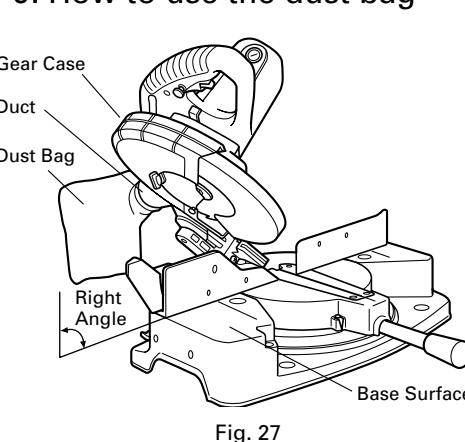

Fig. 27
(1) When the dust bag has become full of sawdust, dust will be blown out of the dust bag when the saw blade rotates. Check the dust bag periodically and empty it before it becomes full.
(2) During bevel and compound cutting, attach the dust bag at a right angle to the base surface as shown in Fig. 27.